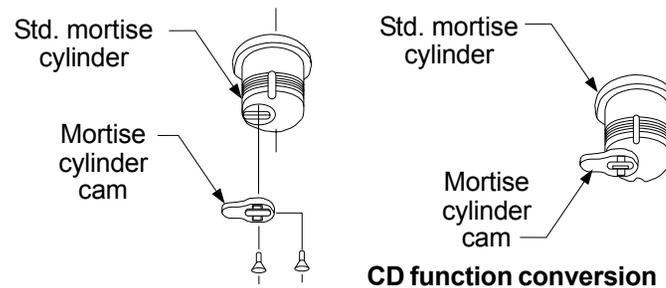

Figure 1
- A. Remove mortise cylinder cam and reinstall in reverse (Figure 1).
- A. Leave mortise cylinder cam in standard position (do not reverse) (Figure 1).